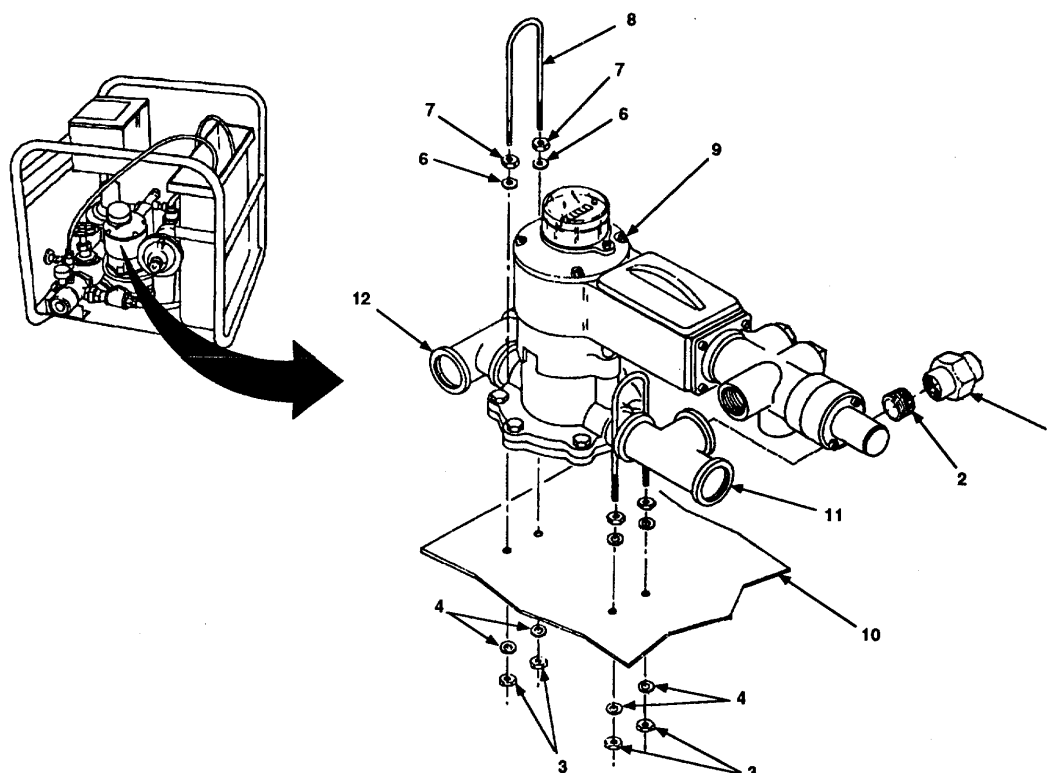

Figure 4-18. Water Meter and Gear Box Assembly Replacement.
- a. Loosen two unions (Figure 4-18, 1) from two close nipples (2).
- b. Remove four nuts (3), lock washers (4), and two u-bolts (5). Discard lock washers (4).
- c. Remove four flat washers (6) and nuts (7) from two u-bolts (8).
- d. Remove water meter and gear box assembly (9) from hypochlorination unit (10).
- e. Remove two close nipples (2) from pipe tees (11 and 12).
- f. Remove two pipe tees (11 and 12) from water meter and gear box assembly (9).
- a. Inspect water meter and gear box assembly (9) for corrosion, leaks, cracks, missing components, or damage. Notify direct support maintenance if water meter and gear box assembly (9) is damaged or defective.
- b. Inspect two close nipples (2) and pipe tees (11 and 12) for corrosion, cracks, holes, bends, or damage.